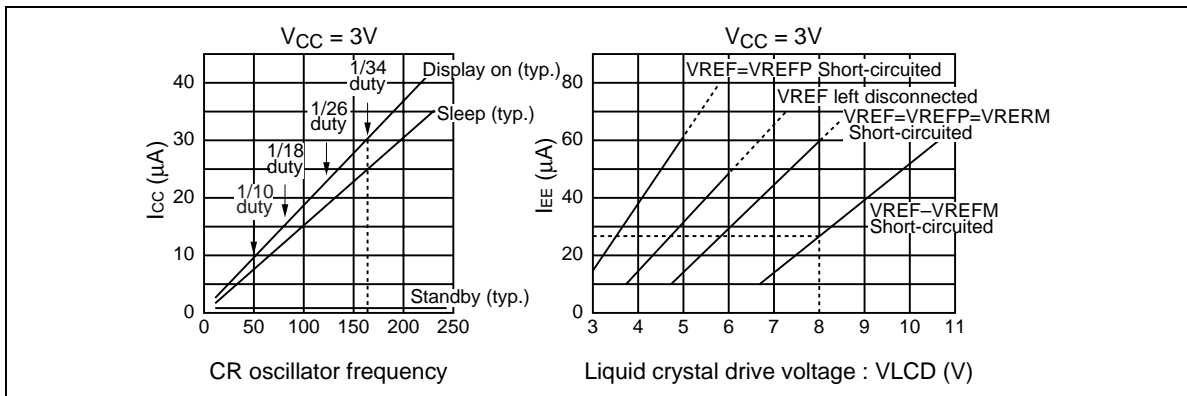

Figure 47 Relationship between the Operation Frequency and Current Consumption
11. The following shows the relationship between the operation frequency (f_{osc}) and current consumption (I_{CC}) (Figure 47).